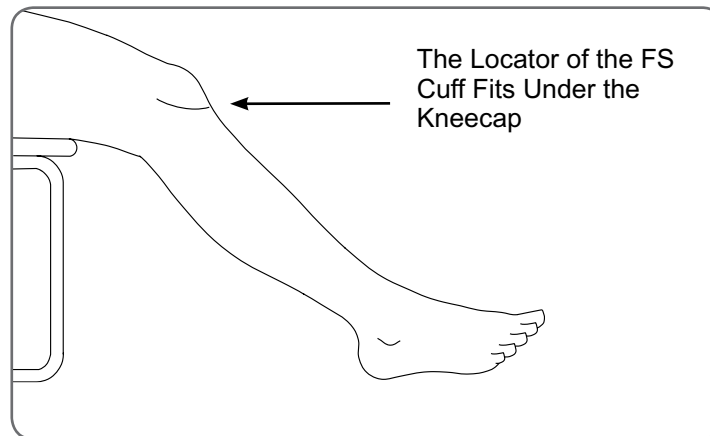

Figure 6-1: Recommended knee angle for positioning the L300 FS Cuff.
3. While seated, slightly straighten your leg as shown in Figure 6-1. The outline of your kneecap should be clearly defined. (Place your foot on a footrest, if necessary.)